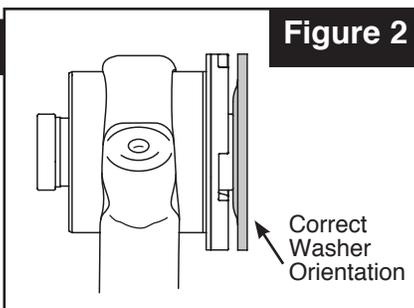

Figure 2
7. Remove nut and washer from arm-to-frame mounting bolt and remove bolt and arm. It may be required to remove additional components from vehicle in order to complete arm-to-frame bolt removal. Discard both OE washers. Place one supplied offset washer onto head of arm-to-frame bolt. When installed, offset washer flange should be facing away from bushing flange, see **Figure 2**.